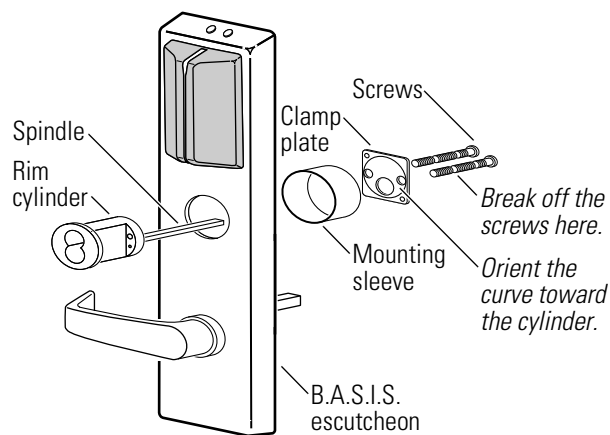

Figure 8.9 Removing and reinstalling the rim cylinder for Von Duprin installations
4. Orient the cylinder and clamp plate as shown in Figure 8.9. From the back of the escutcheon, secure the cylinder and mounting sleeve using the clamp plate and mounting screws.